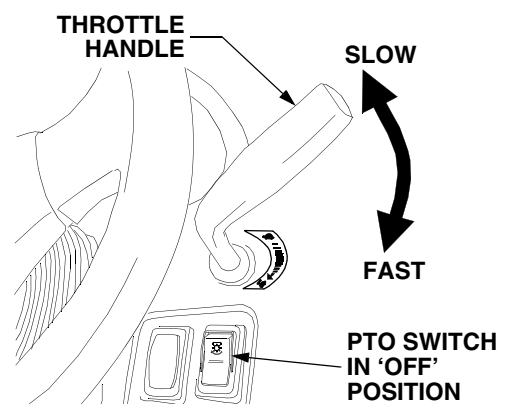

Figure 14
- Move the throttle handle to approximately the "SLOW" throttle position. Refer to Figure 14.